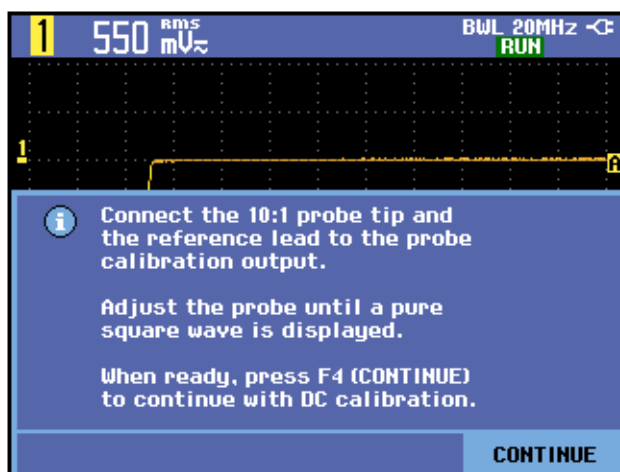

Figure 1: Rising edge of square wave
9. You will see the rising edge of a square wave on the display (approximately 500 Hz). This is the signal used to calibrate the probe. (See the THS3000 Series Oscilloscopes User Manual for probe calibration information). (See Figure 1.)